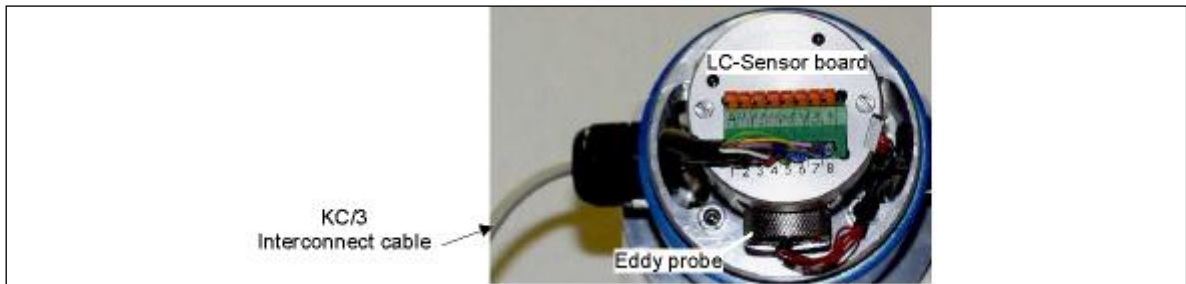

Figure 6.2. Front view of the sensor unit.
1. Connect interconnect cable between the sensor unit and the display unit (See figure 6.2).